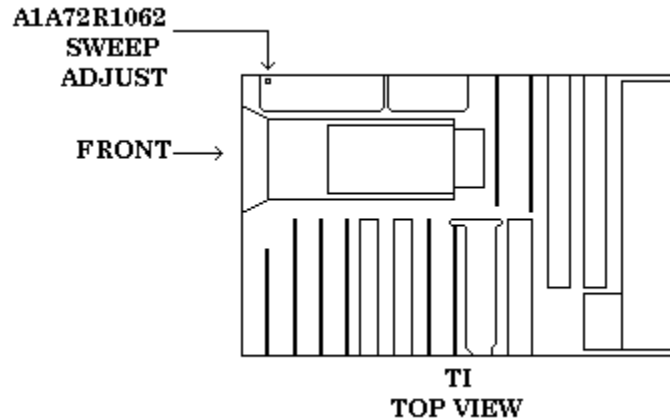

Figure 7. Sweep adjustment.
- (9) Press TI keys as listed in (a) through (g) below:
- (10) Set **TIME/DIV** control to **10 ms**.
- (11) Set oscilloscope calibrator for a 10 ms **MARKER** output.
- (12) Adjust A1A72R1062 (fig. 7) for one marker per division (R).